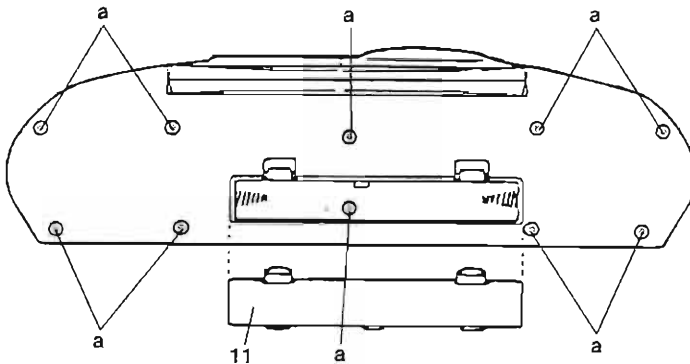

Abb. 1
1. Removal of the Front of the Cabinet (Figs. 1)